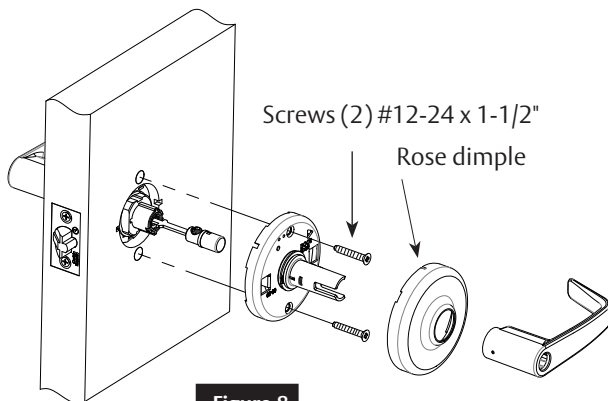

Figure 8
4. Orient dimples on side of rose with openings on side of spring housing assembly (See Figure 8).